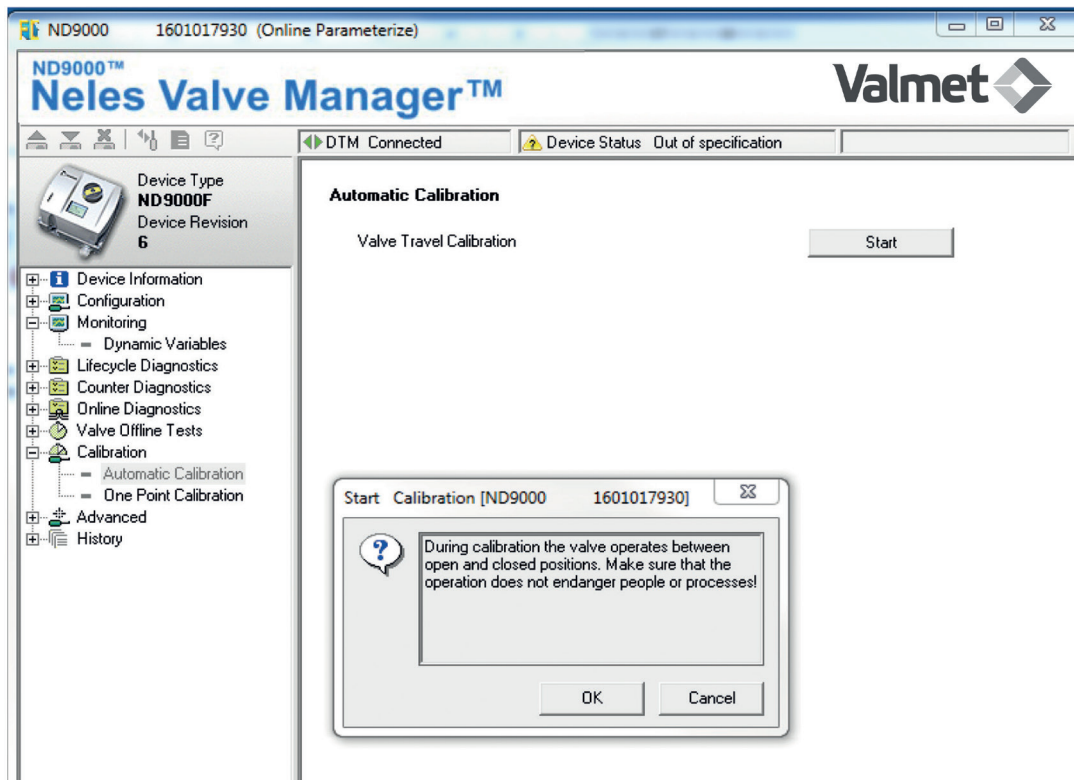

Figure 2. Automatic calibration in Neles Valve Manager DTM.
2. Transducer block parameters, assembly related section See Figure 2